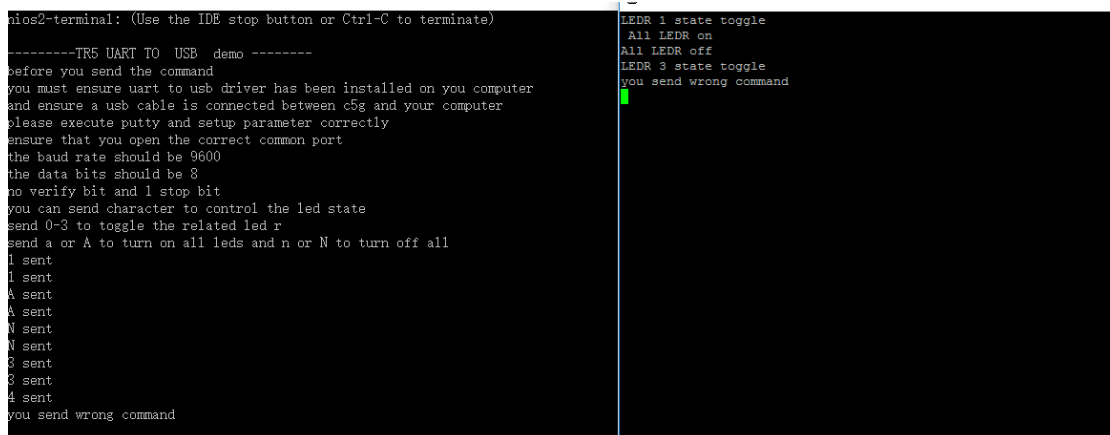

Figure 6-11 Running result of uart_usb demo
- The Nios II-terminal and putty terminal running result as shown in **Figure 6-11**.